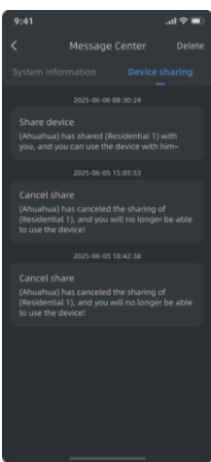

Figure 4
4)Figure 4: After entering the correct account to share, the other party can receive sharing messages in **"My - Message Center - Device Sharing"**.